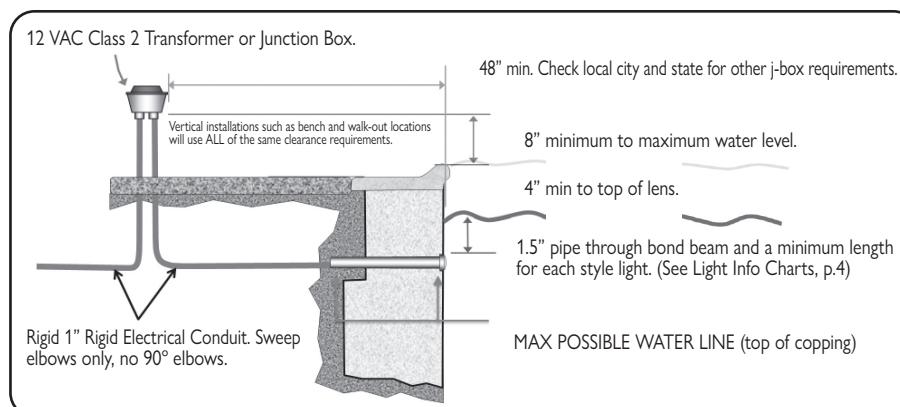

Figure 1: Halco ProLED® Nicheless Light installation with standard 1.5" plastic fitting.
NOTE: A licensed electrician must complete the below preparatory steps prior to the light fixture being installed (see figure 1).
1. The junction box or the low-voltage transformer must be located at least eight (8) inches (measured from the inside of the bottom of the junction box or transformer) above the MAXIMUM water level, OR at least four (4) inches above the ground level or pool deck, whichever is greater. The junction box or transformer must also be installed at least forty-eight (48) inches (4 ft.) from the edge of the pool. (see figure 1).
2. A standard 1.5" plastic wall / return fitting (not included) must be installed so that the top edge of the Halco ProLED® Nicheless LED Lights lens is at least four (4) inches (10.2 cm) below the surface of the pool water.